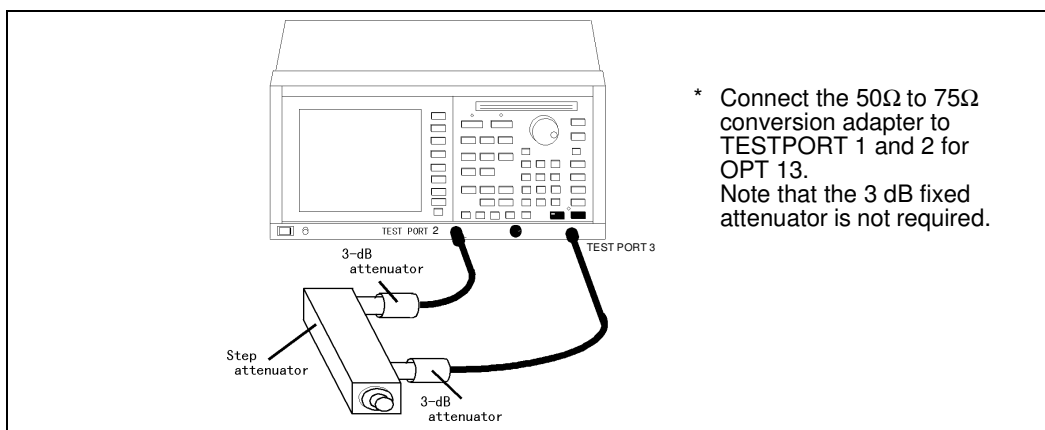

Figure 10-36 Connections for TEST PORT 3 Measurement for Dynamic Level Accuracy
- (1) Connect two 3-dB attenuators and step attenuator using the RF cables between TEST PORT 2 and TEST PORT 3 shown in Figure 10-36.